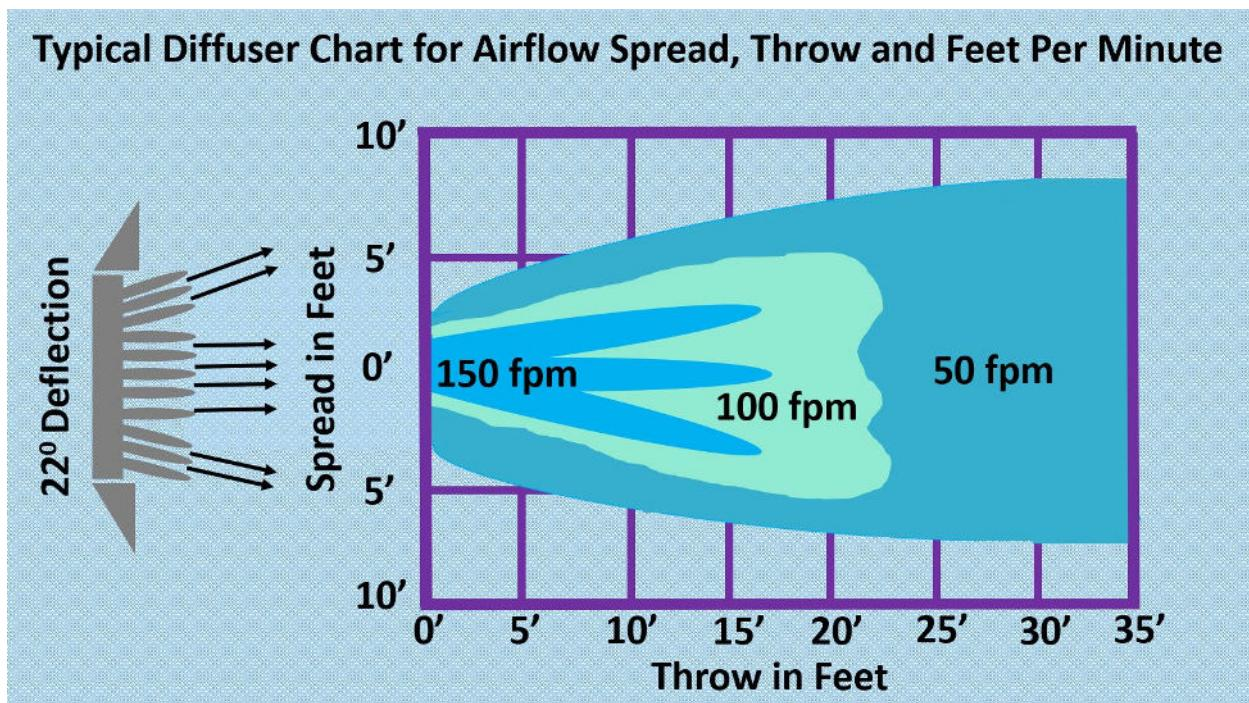

Figure 2: Diffuser Throw and Spread
Note: There is a misconception out there that you need the duct sized small so you will get more velocity. However, CFM of airflow into a duct system always equals the CFM out unless the duct leaks. Therefore, properly sizing the diffusers and return grills for the room's airflow, will make sure the air velocity created is correct for the designed throw and spread (see figure 2). Much like a hose nozzle size will determine a hose's water velocity. For HVAC systems, smaller duct size equals a higher static pressure (SP) and a decreased CFM.